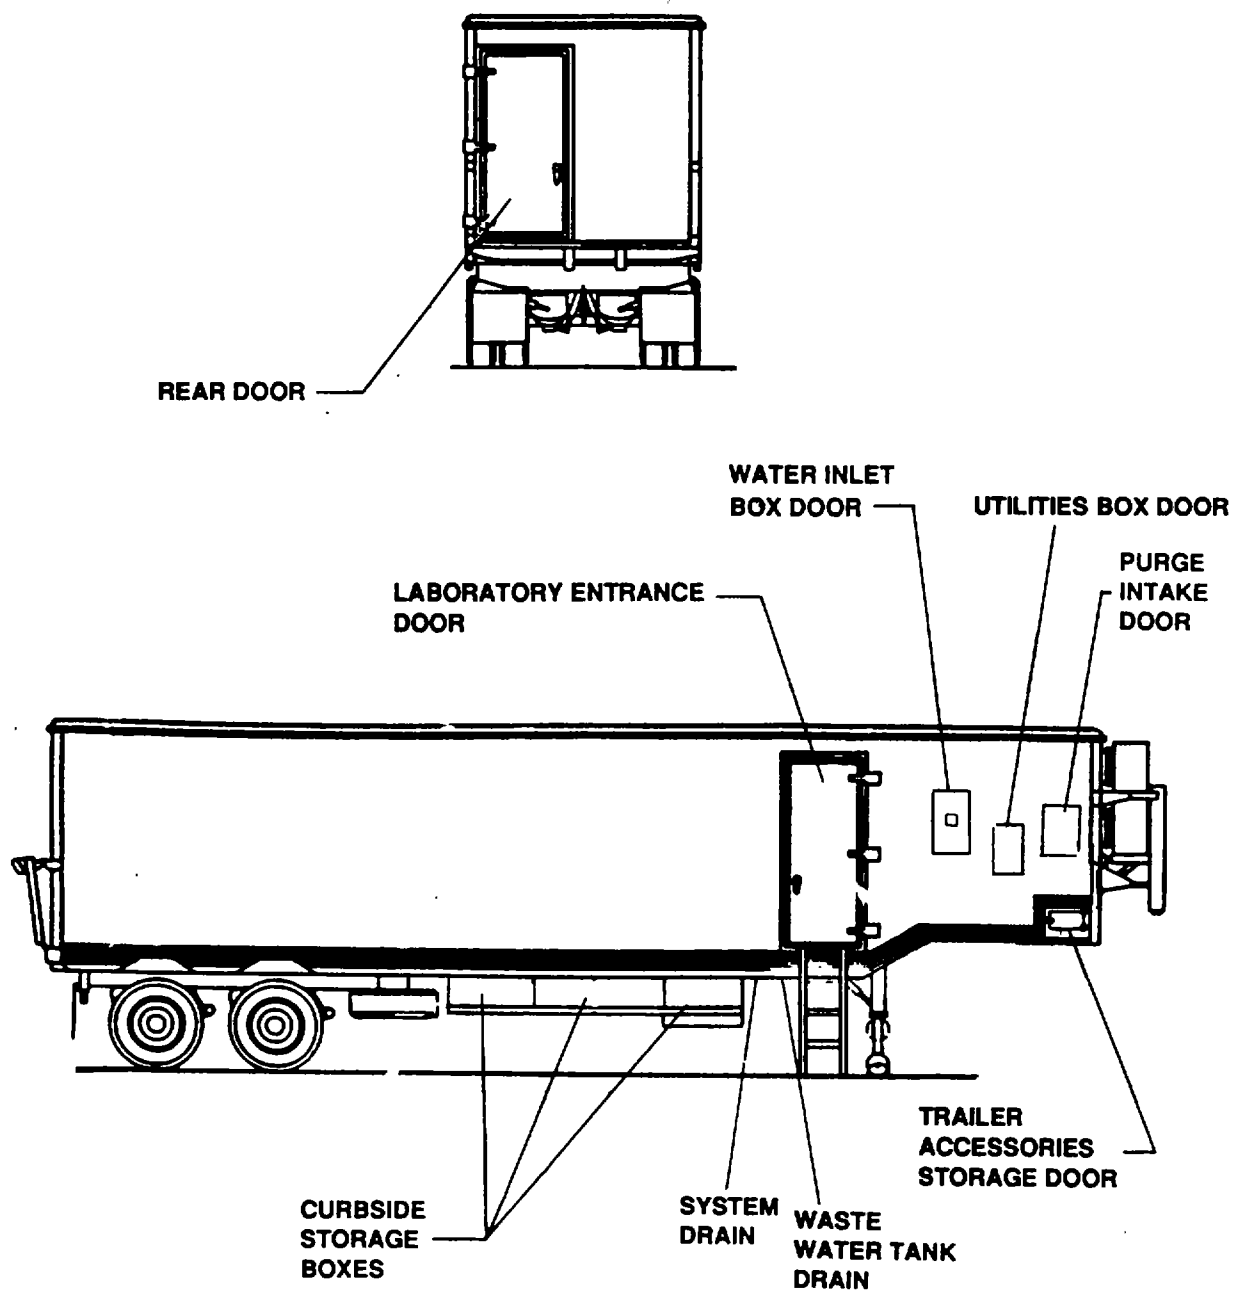

Figure 1-2. Rear and Curbside Exterior
a. *Rear and Curbside Exterior (Figure 1-2).*